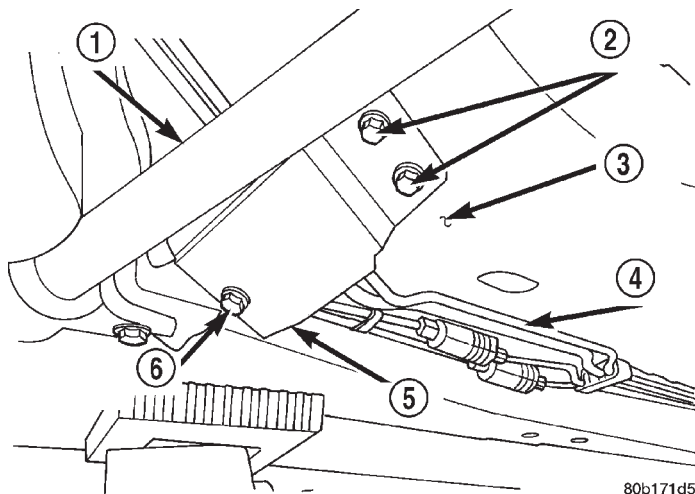

Fig. 18 Tube Bundle Cover
(1) Remove the cover (Fig. 18) securing the chassis brake tubes and the fuel lines to the vehicle floor pan.